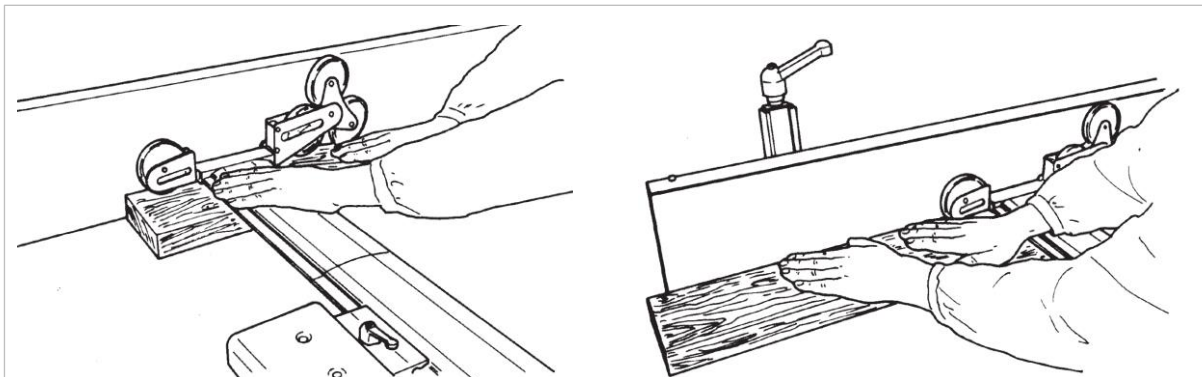

Figure 8: Planing of flat and wide workpieces
- By positioning the wheels in the vertical position (see ⇒ Figure 8) the bridge stroke is carried out automatically up to a maximum height of 75 mm by the workpiece feed.